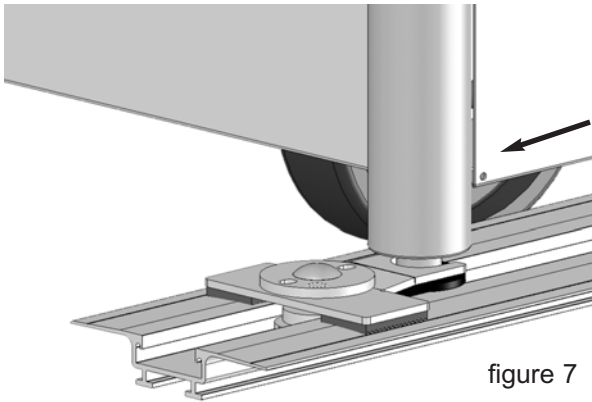

figure 7
2. Position lock in desired location in the track (figure 7).